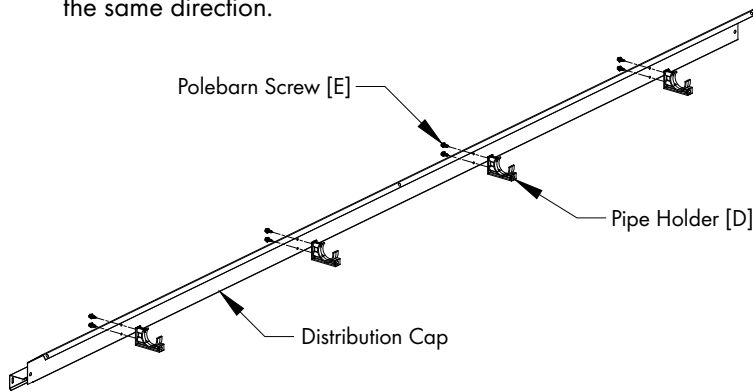

Figure 7A
Locate the Distribution Cap and the plastic Pipe Holder [D]. Fasten (4) Pipe Holders [D] to each Distribution Cap using (2) Polebarn Screws [E]. See Figure 7A and 7B. Make sure all the Pipe Holders are installed in the same direction.